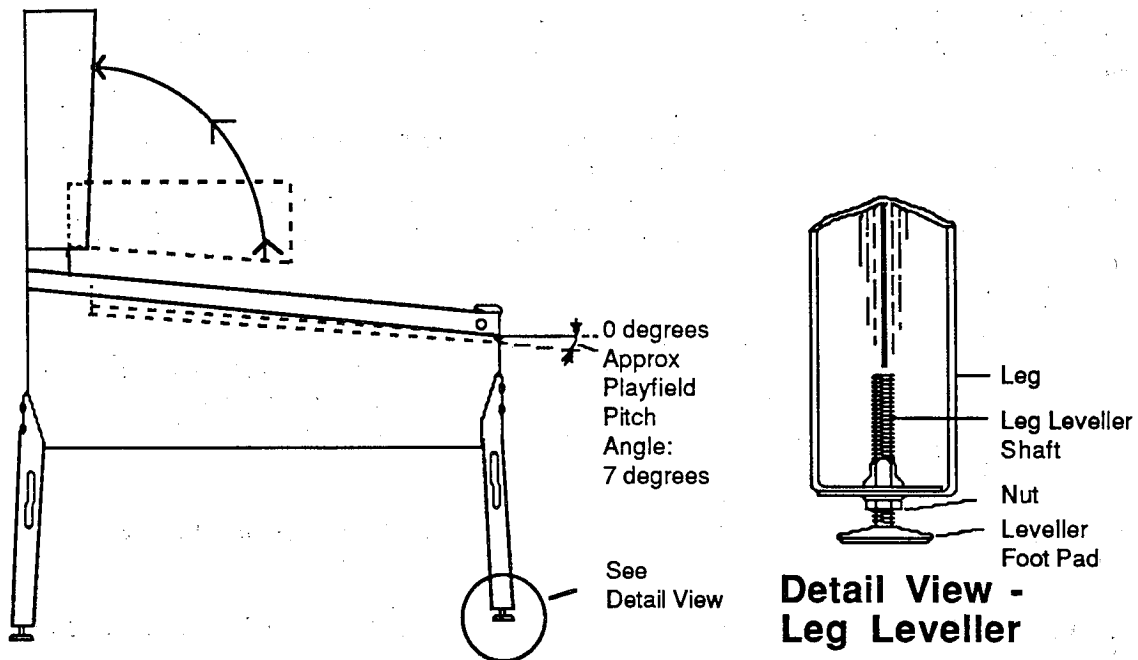

Figure 3. Pinball Assembly, Playfield Pitch Angle, and Leg Leveler Details.
3. Attach the front legs (after installing leg levellers), using leg bolts. See Figure 3 for details.
6. Adjust the leg levellers for proper playfield level (side-to-side) and playfield pitch angle (incline) of approximately 6 1/2 degrees. (Again, it is recommended that these measurements be made ON the playfield, not the cabinet nor the playfield cover glass.) Tighten the nut on each leg leveller shaft to maintain this setting, as shown in Figure 3.